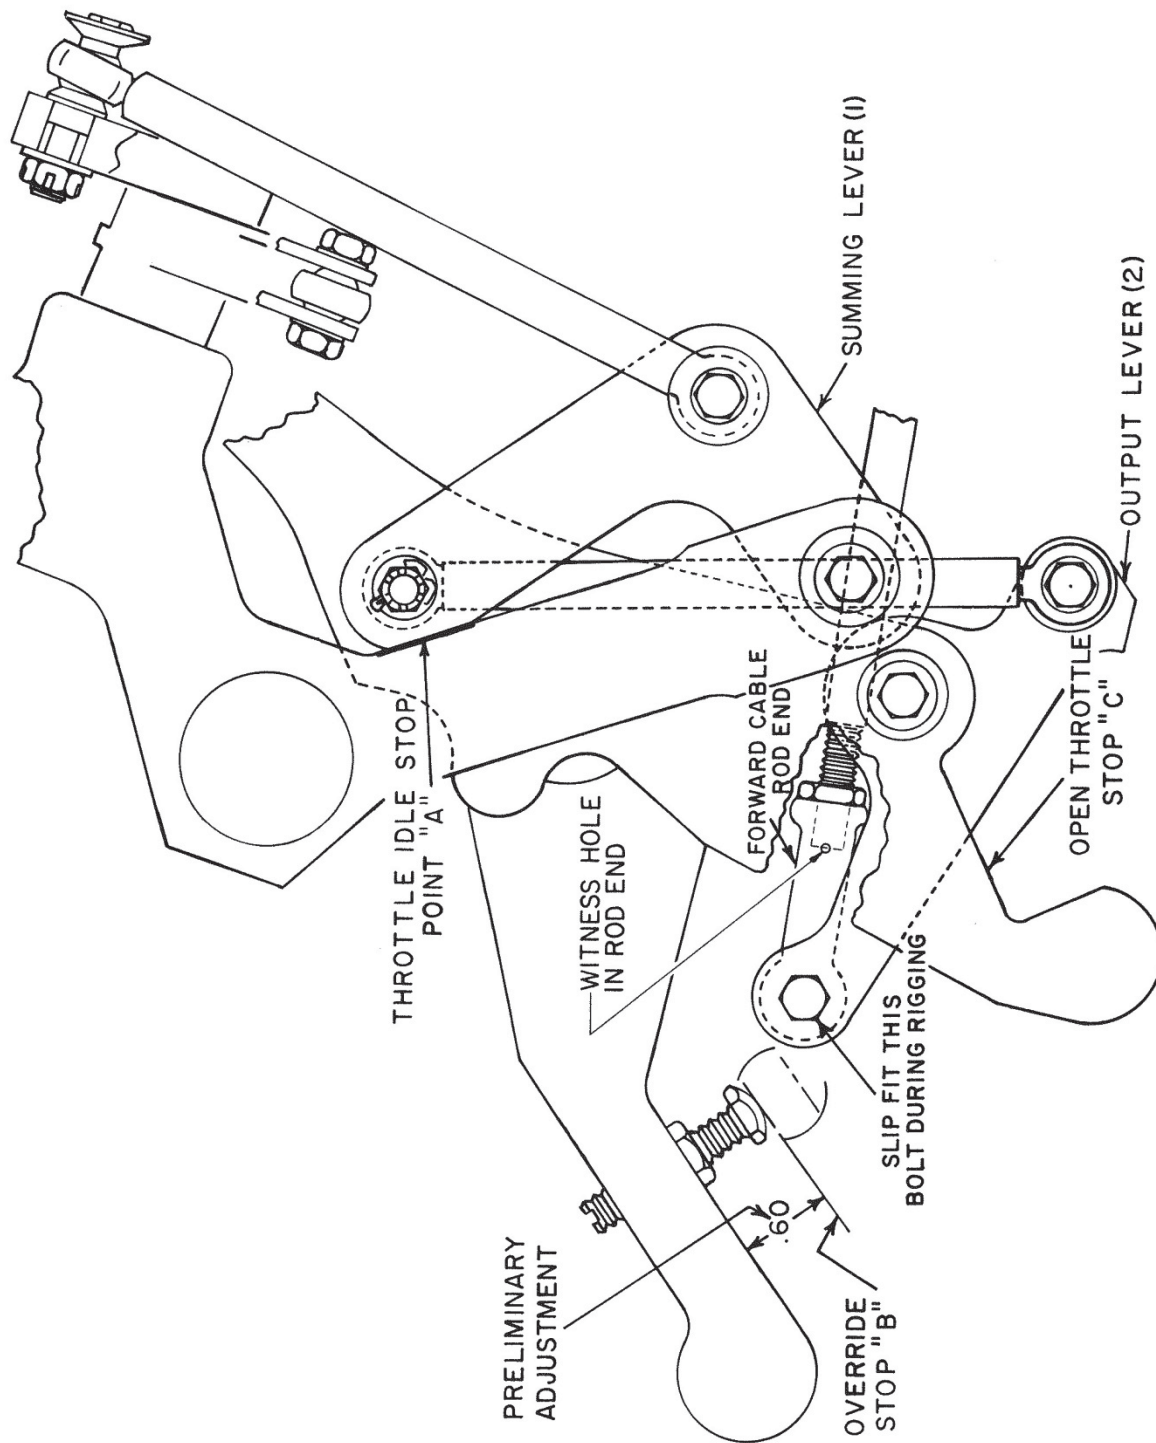

Figure 13-25. Correlator Idle Stop Position
- (c) Pre-adjust point "B" override stop to 0.60 ± .02 inches (Figure 13-25).
- (f) Set summing lever (1) on idle stop, point "A." (Figure 13-25).
- (g) Set correlator summing lever at idle stop, point "A" (Figure 13-25).